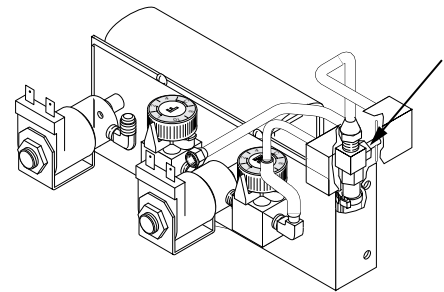

FIG. 2
**NOTE-** To change steamed milk temperature adjust needle valve. Rotate counterclockwise to increase temperature, clockwise to decrease temperature. See Fig. 2